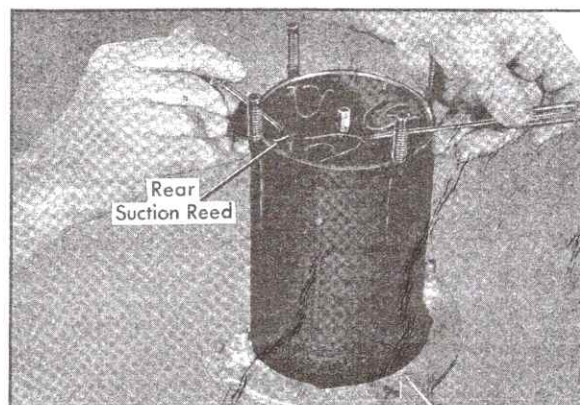

Fig. 1-48 Removing Rear Suction Reed
13. Using two small screwdrivers, carefully remove rear suction reed, Fig. 1-48. Do not pry up on horseshoe shaped reed valves.